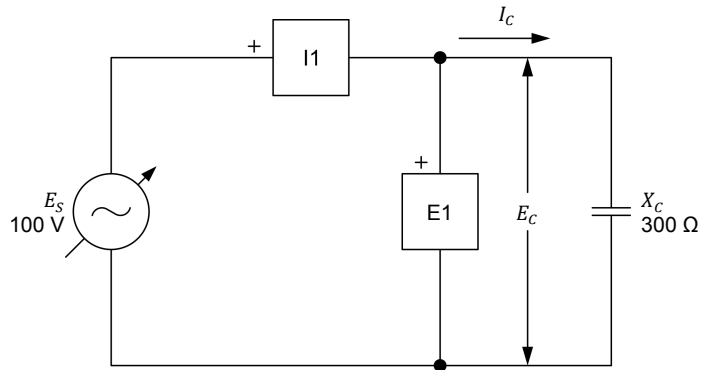

Figure 3-7. AC circuit containing a capacitor and set up for power measurements.
35. Set up the circuit shown in Figure 3-7.